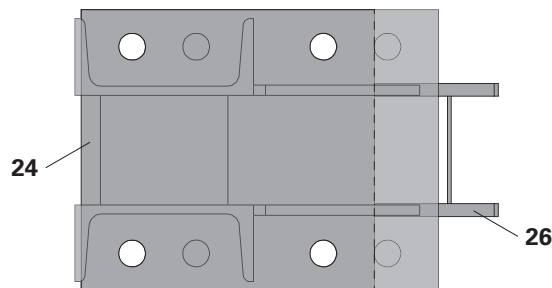

Fig. C4.06
- ➔ Pay close attention to the assembly position! (Fig. C4.06 – C4.08)